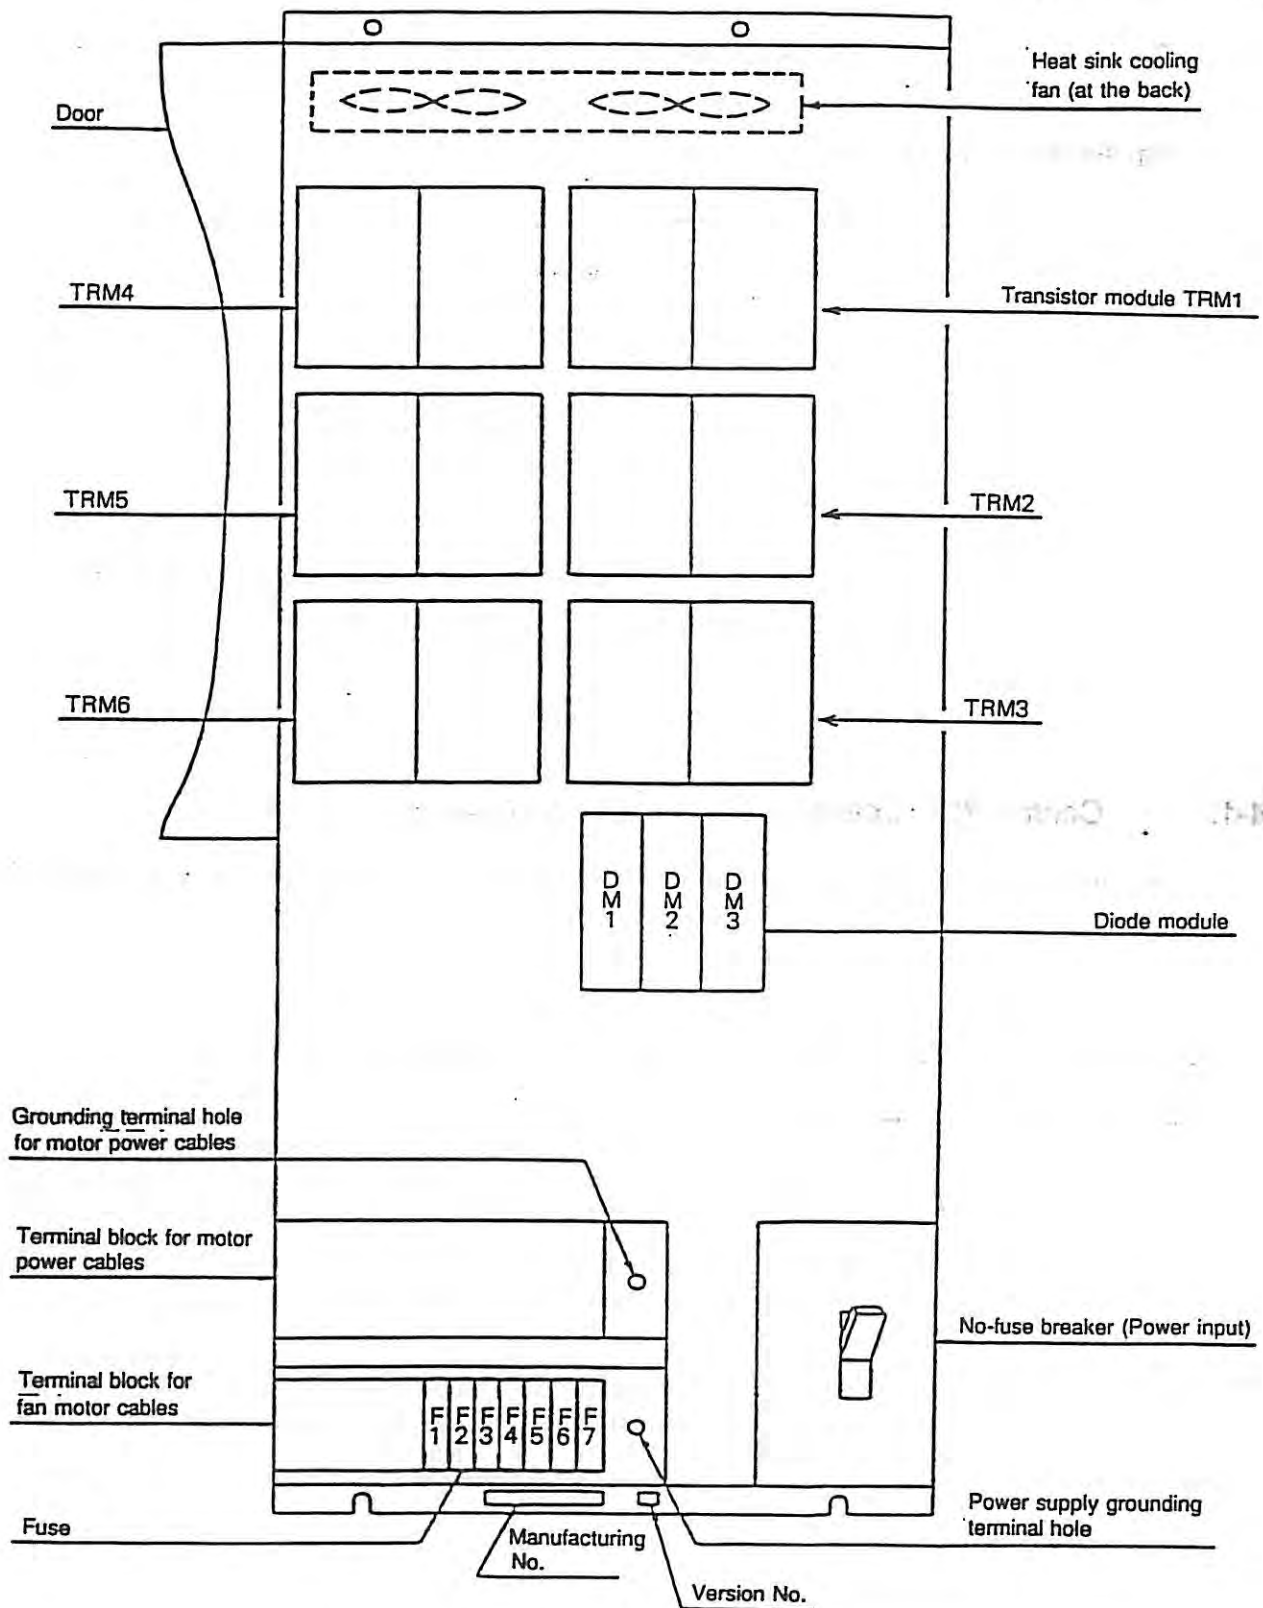

Fig. 4-7 Major Component Parts Arrangement for Power Supply Unit - D37A
- Fig. 4-7 Major Component Parts Arrangement for Power Supply Unit - D37A